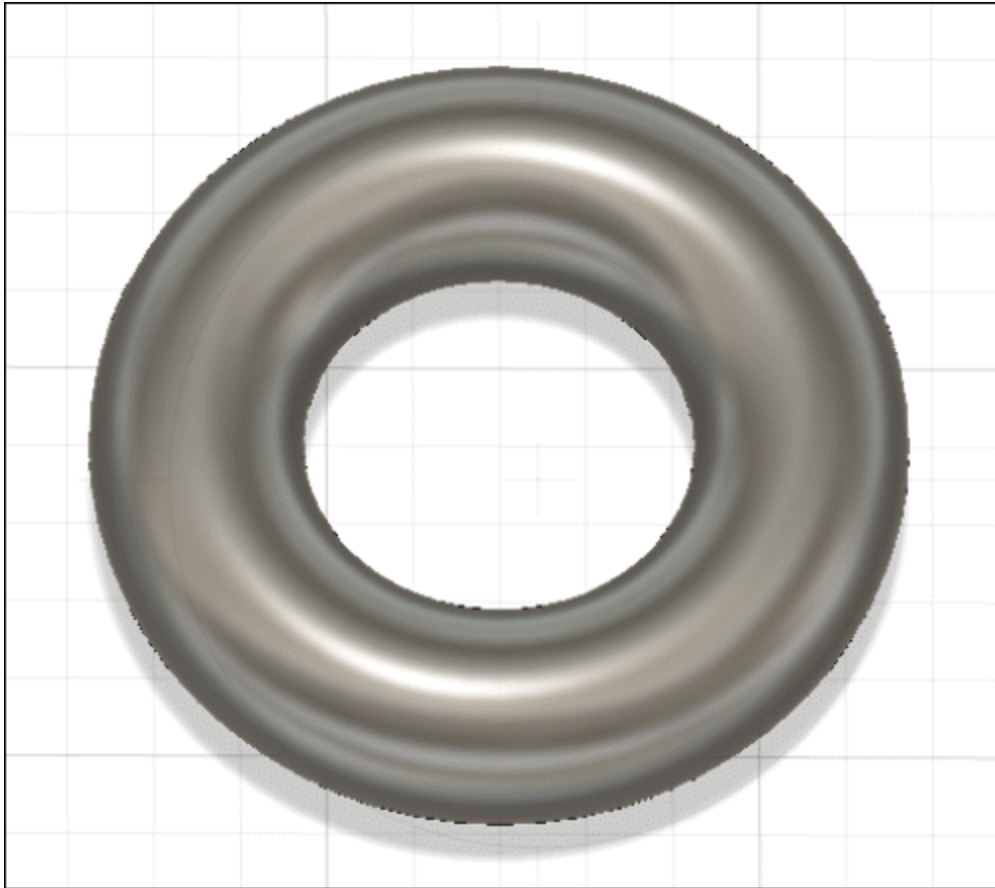

Figure-73. Torus created
- Click **OK** button of **TORUS** dialog box to finish the process; refer to Figure-73.